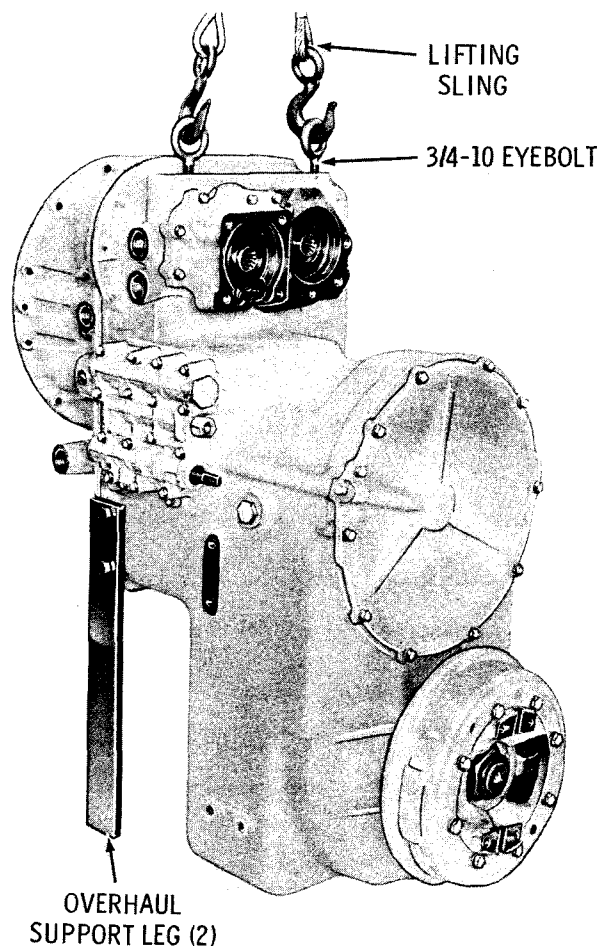

Fig. 5-1. Lifting transmission
a. Lifting Points. All twin-turbine transmissions have two 3/4-10 tapped holes in the top of the transmission housing. Bolts or eyebolts may be installed into these holes for lifting and handling the transmission while positioning it for disassembly (fig. 5-1). The overhaul support legs (Table 4-1) will support the transmission when the lifting sling is removed.